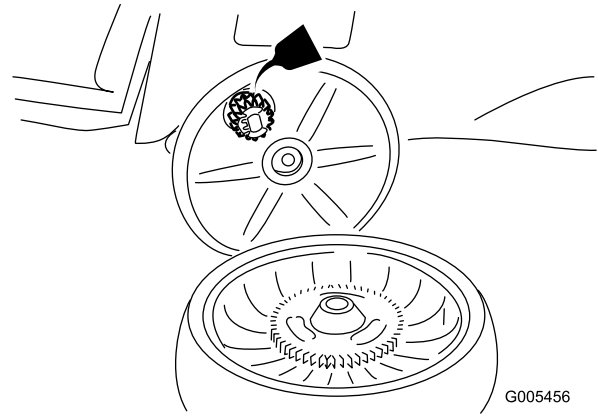

Figure 33
2. Apply a lubricating oil to the inner and outer sides of the gear as shown in Figure 33.